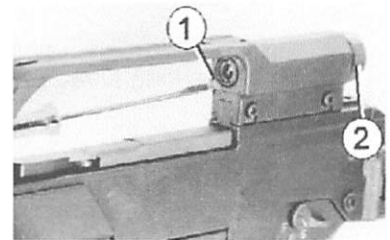

Fig. 69 Replacement of cover
- ⇒ Use a screwdriver to lift off the cover (Fig. 69/1), inserting the screwdriver into one edge so the cover is separated from the carrying handle.